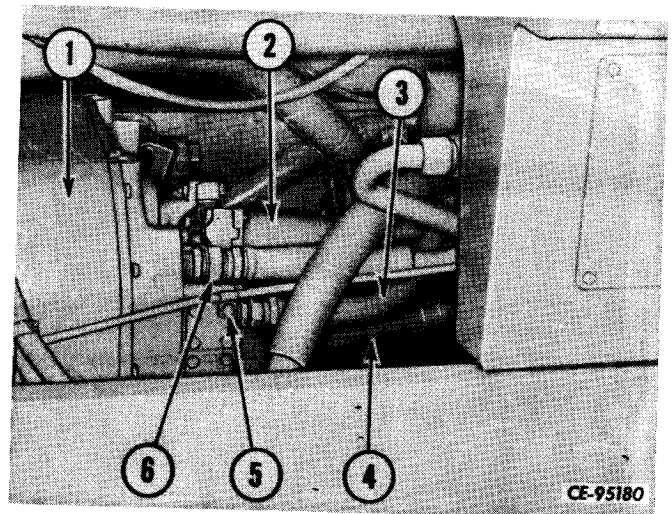

Figure 4-81
Connect the transmission-to-torque converter drive shaft (2, Fig. 4-81) to the transmission (1). Connect valve to torque converter line (3), filter to transmission line (6) and valve-to-cooler line (4) to transmission. Secure air line clamp (5) to transmission.